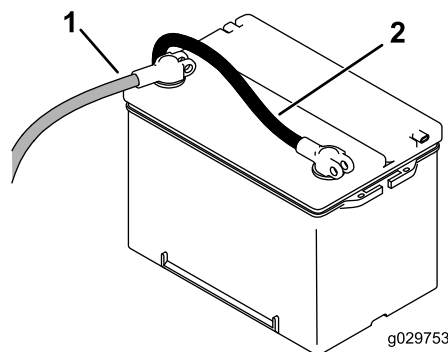

Figure 49
5. Install the positive cable (red) to the positive (+) terminal and the negative cable (black) to the negative (-) terminal of the battery (Figure 49).